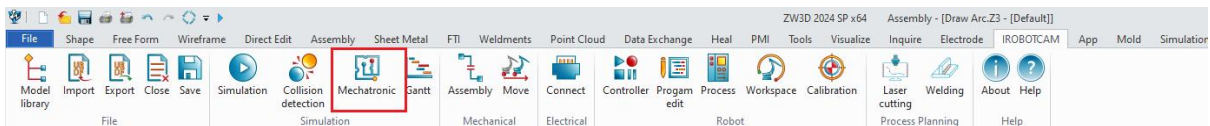

Figure 9-5: Mechatronic
- Enter Mechatronic: Navigate to the "Mechatronic" option within the iRobotCAM interface.(Figure 9-5)